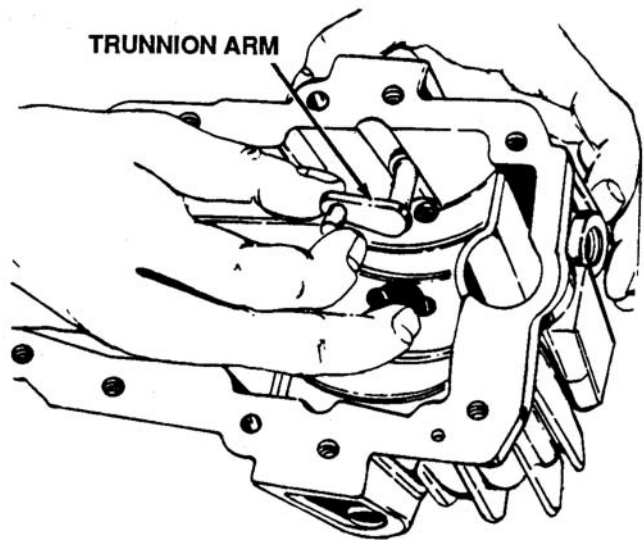

Figure 6-28. Removal of Trunnion Arm
e. Remove trunnion arm. See Figure 6-28.